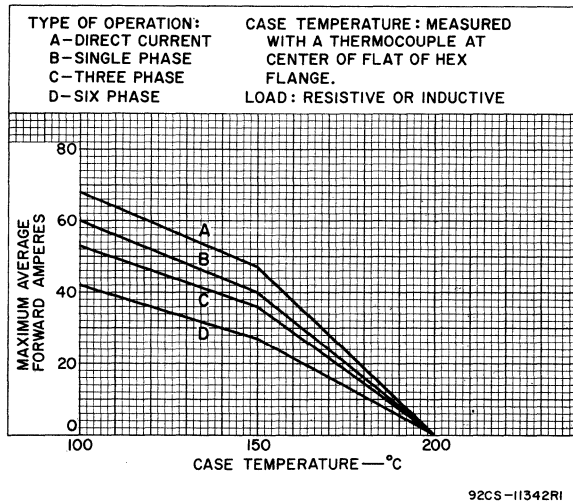
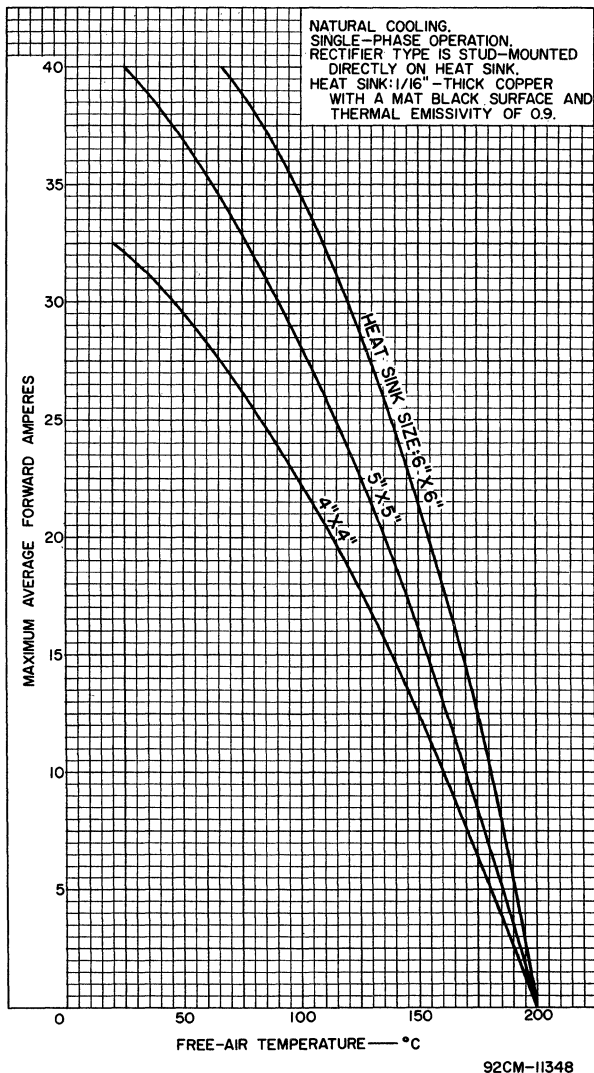
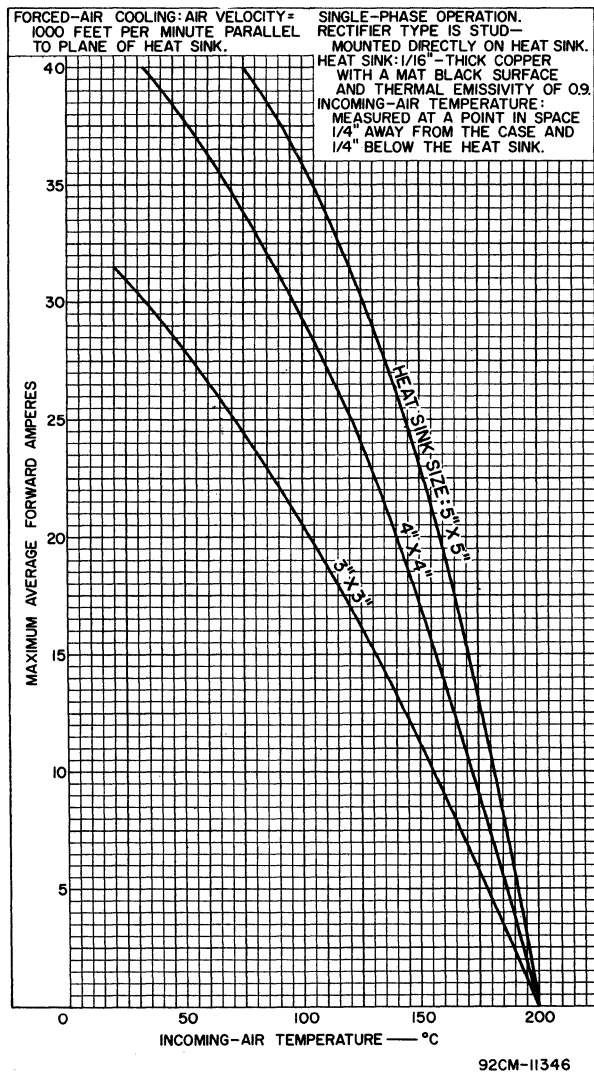

Fig.1 - Rating Chart for Types 1N1183A, 1N1184A, 1N1186A, 1N1187A, 1N1188A, 1N1189A, 1N1190A, and corresponding reverse-polarity versions.
Fig.3 - Operation Guidance Chart for Types 1N1183A, 1N1184A, 1N1186A, 1N1187A, 1N1188A, 1N1189A, 1N1190A, and corresponding reverse-polarity versions.
Fig.4 - Operation Guidance Chart for Types 1N1183A, 1N1184A, 1N1186A, 1N1187A, 1N1188A, 1N1189A, 1N1190A, and corresponding reverse-polarity versions.
The fundamental consideration in the application of these silicon rectifiers is the current-case-temperature relationship established in Fig. 1. Figs. 3 and 4 are guidance charts for operation of these devices with heat sinks in single-phase circuits.
Fig. 2 is used in conjunction with Fig. 3 and Fig. 4 to determine maximum heat-sink sizes or maximum average forward amperes per rectifier cell for polyphase operation and dc operation. The procedure for the use of Figs. 2, 3, and 4 is as follows:
Step 3: Multiply average forward amperes established in Step 2 by the current-multiplying factor established in Step 1 to determine adjusted average forward amperes per rectifier cell, for use with Fig. 3 or Fig. 4.
Step 4: Using the product obtained in Step 3, determine from Fig. 3 or Fig. 4 either (a) the maximum allowable free-air temperature or incoming-air temperature for a given heat-sink size, or (b) the minimum heat-sink size for a given free-air temperature or incoming-air temperature.